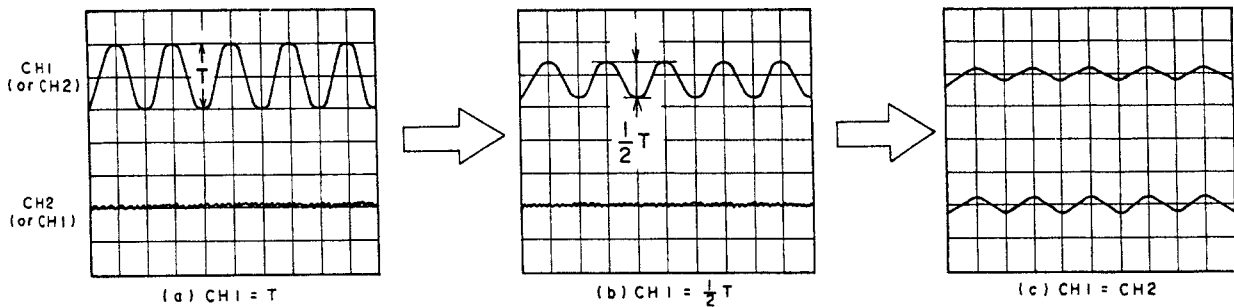

Fig. 4-14
- 2) Connect an oscilloscope's CH-1 to the AUDIO OUT (L) terminal on the rear panel and CH-2 to TP401 (CTL OUT) on the MAIN PCB.
- 3) Turn the hexagon screw to obtain 1/2 of the output level of either CH-1 or CH-2, whichever has an output signal as shown in Fig. 4-14.